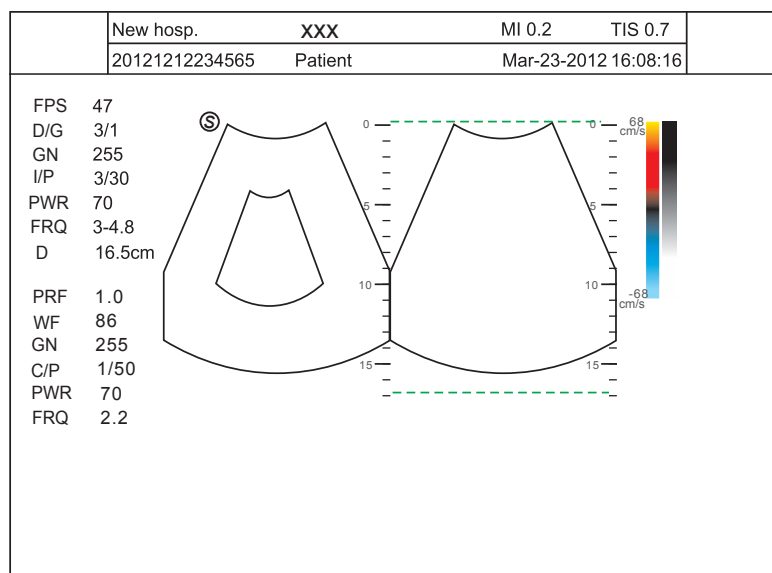

Figure 9-2 Real Time Color + Real Time B
- Select the **Menu** key and then select **Dual B** to display two real time scans if one of the two images is a color-mode (Color, DPI or TDI) image. Two real time scans in different imaging mode display on the screen, as shown in Figure 9-2.